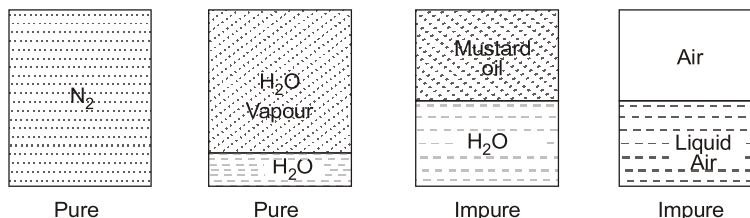

Figure 1.5
- Some more examples are shown in figure 1.5.